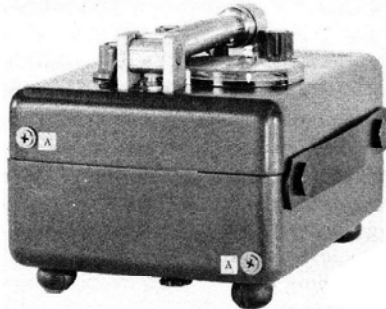

Figure 4. Type 1551-C End View,
- a. Remove the two binder-head screws (A, Figure 4) from the tapped inserts in the microphone end of the Sound-Level Meter case.
- c. There are two 1/4-28 binder-head screws, mounted in holes in the front face of the power supply, which line up with the inserts (A, Figure 4) when the power supply is placed against the end of the Sound-Level Meter.